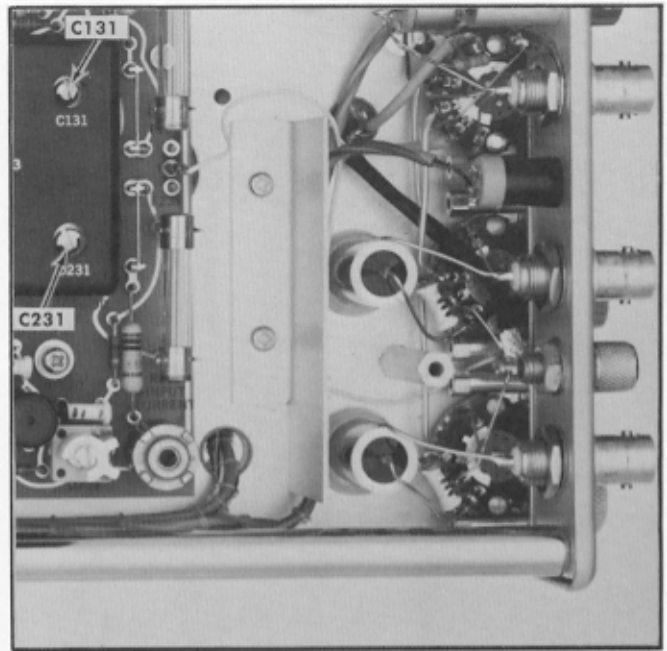

Fig. 5-13. Location of C131 and C231.
h. ADJUST—C131 (see Fig. 5-13) for minimum aberration on the upper leading corner of the waveform.
f. ADJUST—C231 (see Fig. 5-13) for minimum aberration on the bottom leading corner of the waveform.